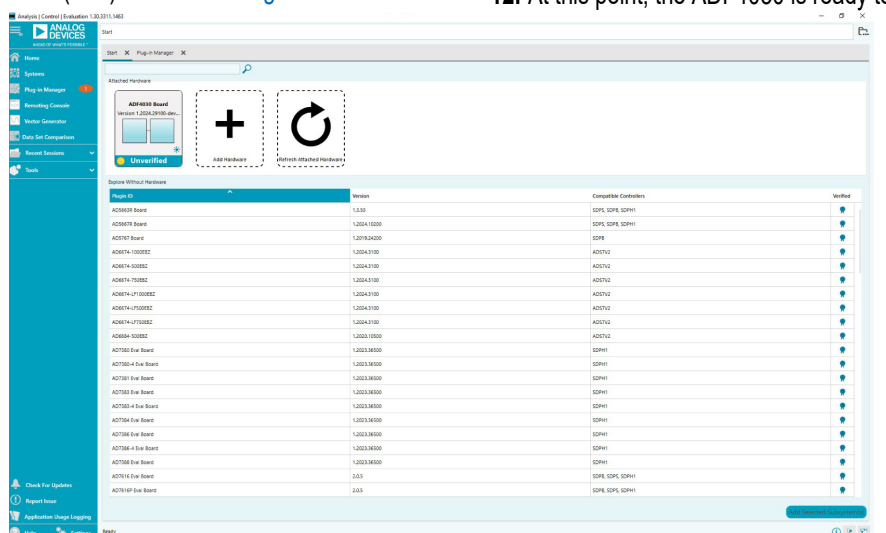

Figure 8. ACE Start Page Showing the EV-ADF4030SD1Z and SDP K1 Controller Boards Available
7. Launch the ACE application. The attached hardware appears in the graphical user interface (GUI) as shown in Figure 8.